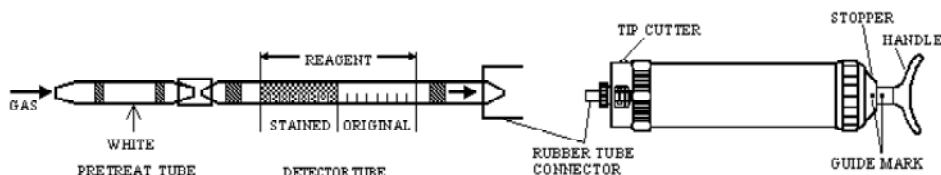

Fig.1
- ① Break both ends of detector tube and pretreat tube, and connect each end of the detector tube and pretreat tube with rubber tube connector as shown in Fig.1.
- ② Insert the detector tube into aspirating pump securely as shown in Fig.1 (Arrow mark shall point to the pump.)
- ③ Align the guide marks on the shaft and stopper of the aspirating pump.
- ④ Pull the pump handle at full stroke until it locks and wait for 2 minutes or until the completion of sampling is confirmed with the flow indicator of the pump (See descriptions about the flow indicator in the instructions of the pump).